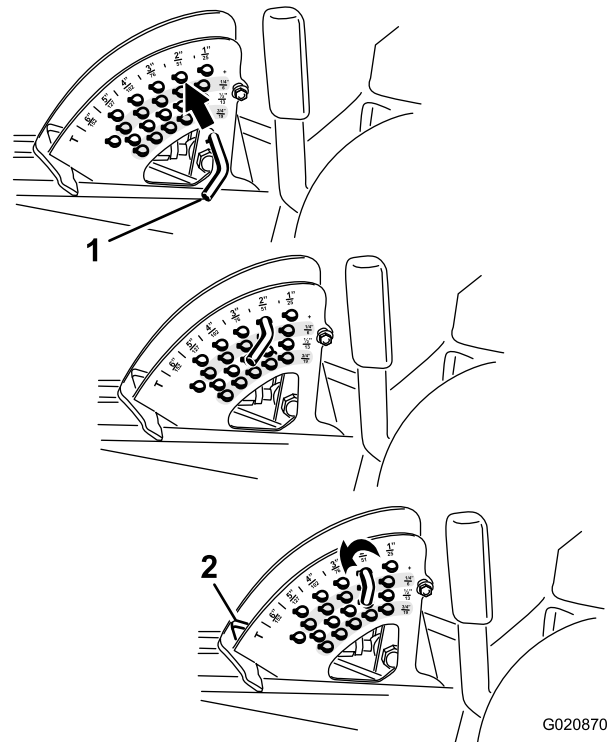

Figure 21
Note: To lock the mower deck in a raised position, raise the deck past the 15 cm (6 inch) position, remove the height-of-cut stop pin (refer to Adjusting the Height-of-Cut \(page 24\)), and place the pin in the 15 cm (6 inch) height-of-cut position (Figure 21).
2. To adjust the height-of-cut, rotate the stop pin until the roll pin in it lines up with the slots in the holes in the height-of-cut bracket and remove it (Figure 21).
3. Select a hole in the height-of-cut bracket corresponding to your desired height-of-cut, insert the pin, and rotate it down to lock it in place (Figure 21).
Note: There are 4 rows of hole positions (Figure 21). The top row gives you the height-of-cut listed above the pin. The second row down gives you the height listed plus 6 mm (1/4 inch). The third row down gives you the height listed plus 12 mm (1/2 inch). The bottom row gives you the height listed plus 18 mm (3/4 inch). For the 15.8 cm (6 inch) position, there is only 1 hole, located in the second row. This does not add 6 mm (1/4 inch) to the 15.8 cm (6 inch) position.